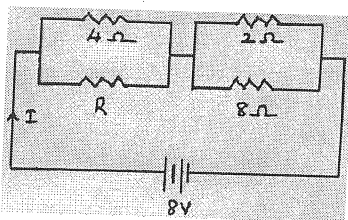

Fig.9
7. Find the unknown resistor R where power consumed by the network is 16W for the network shown in fig.9.